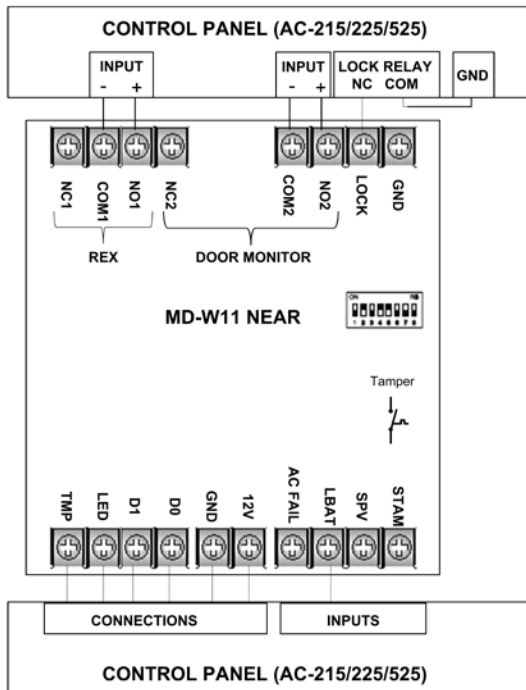

Figure 5: MD-W11N NEAR Unit Wiring Diagram
4. Wire the unit as instructed in the chapter on Wiring the MD-W11N Unit, below, and Figure 5: MD-W11N NEAR Unit Wiring Diagram, on page 12.
Wire the following terminals between the Controller's Input and Output to the MD-W11N Near Unit, as shown in Figure 5: